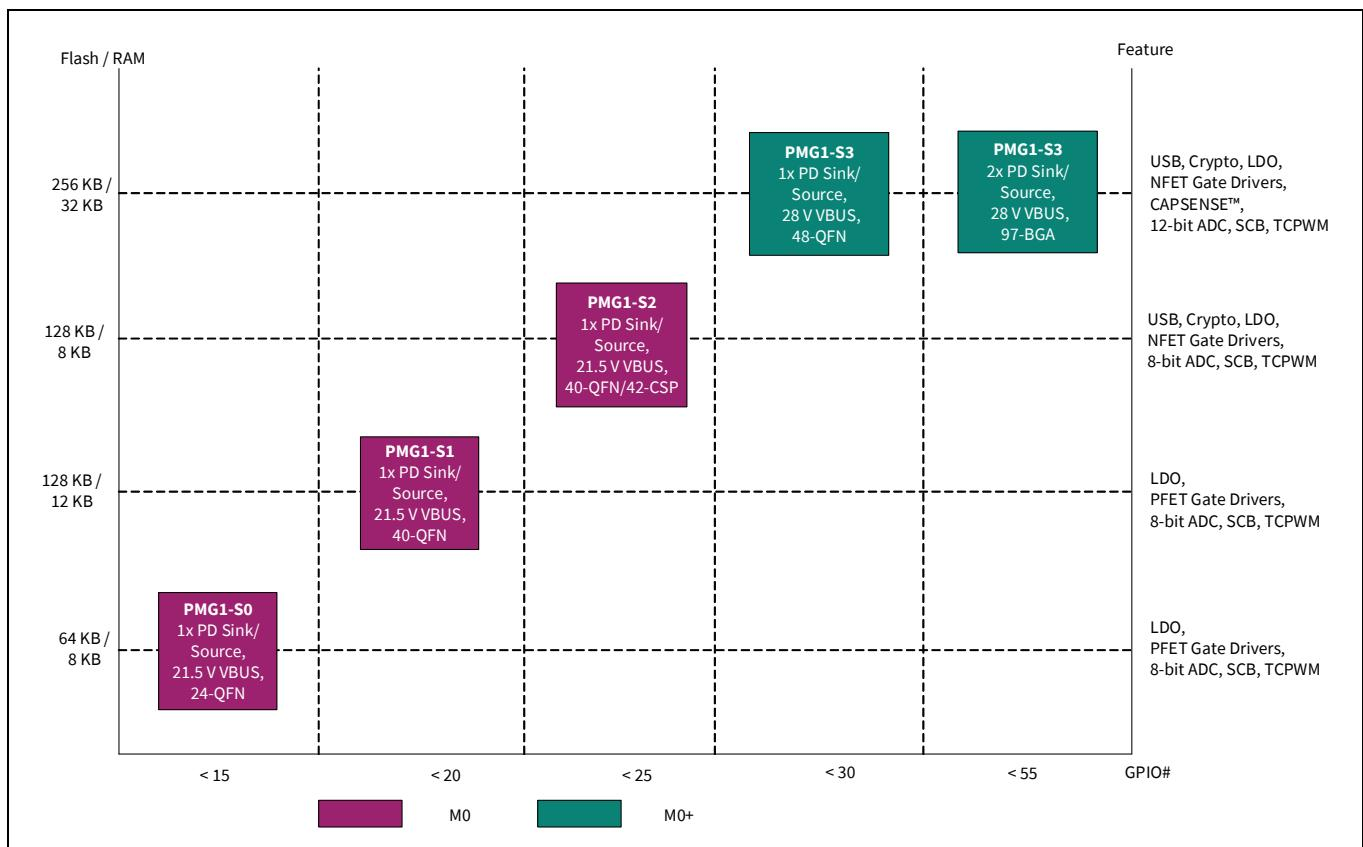

Figure 1 PMG1 family segmentation
EZ-PD™ PMG1 (Power delivery MCU Gen1) is a family of high-voltage USB-C Power Delivery (PD) microcontrollers (MCU). These chips include an Arm® Cortex®-M0/M0+ CPU and USB-C PD controller along with analog and digital peripherals. EZ-PD™ PMG1 is targeted for any embedded system that provides/consumes power to/from a high-voltage USB-C PD port and leverages the microcontroller to provide additional control capability. Figure 1 shows the EZ-PD™ PMG1 family segmentation.